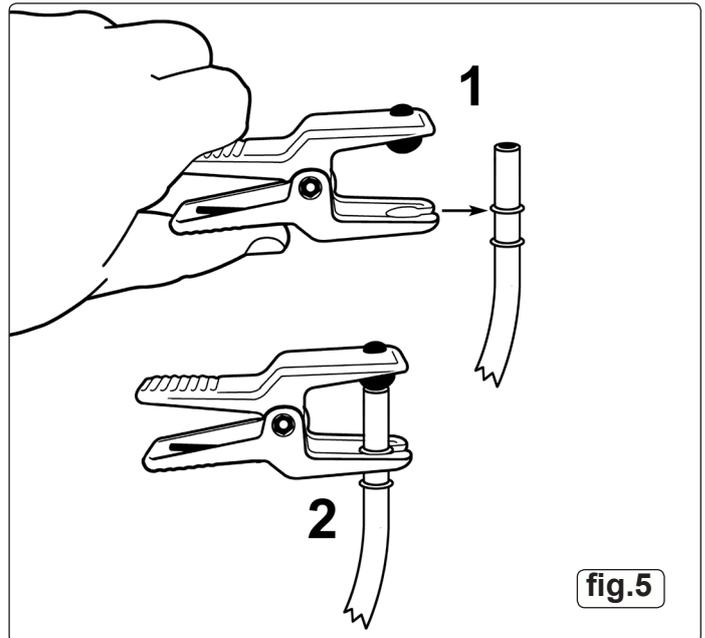

fig.5
**4.4 Clamp (Metal Fuel Pipe)** - Use clamp to close off end of metal fuel pipe as indicated in fig.5.